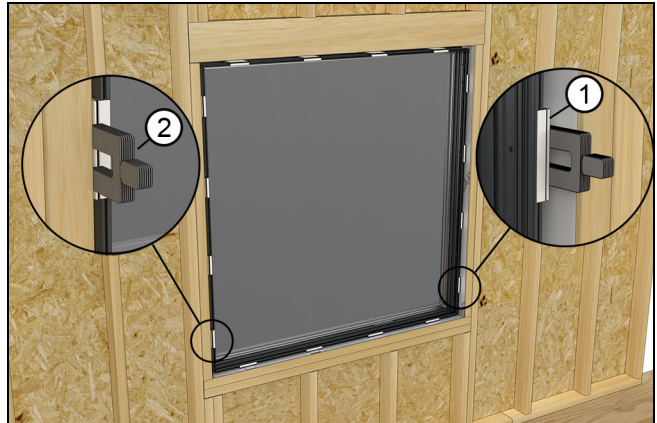
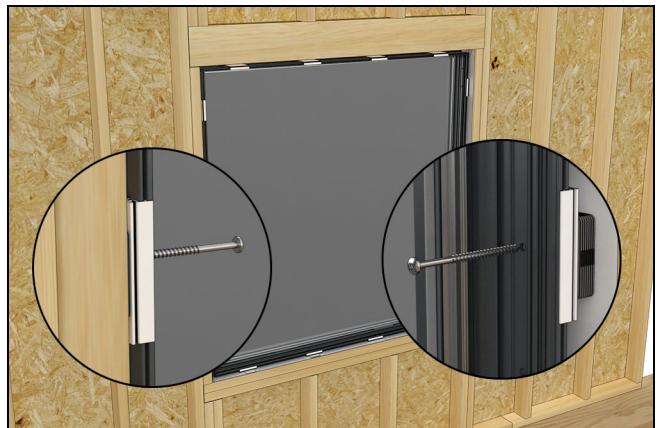

Figure 18
Figure 19
4. Shim the bottom corners right above the fastener holes. Lightly fasten with the #10x3" installation screws provided. See Figure 18 and Figure 19.